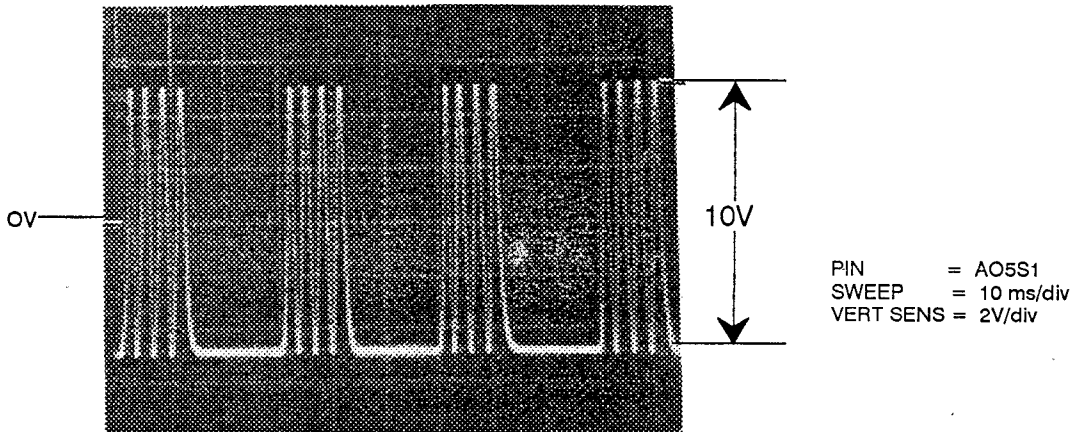

FIGURE 4.3
4.2.7 Cosine Amplitude (CA) and Offset (CO) Figure 4.3.
2. Observe A05S1 (COS POSITION) for a scope display similar to that shown in Figure 4.3. The waveform amplitude must be $10 \text{ Vdc} \pm 1 \text{ volt}$ peak to peak and symmetrical about ground.